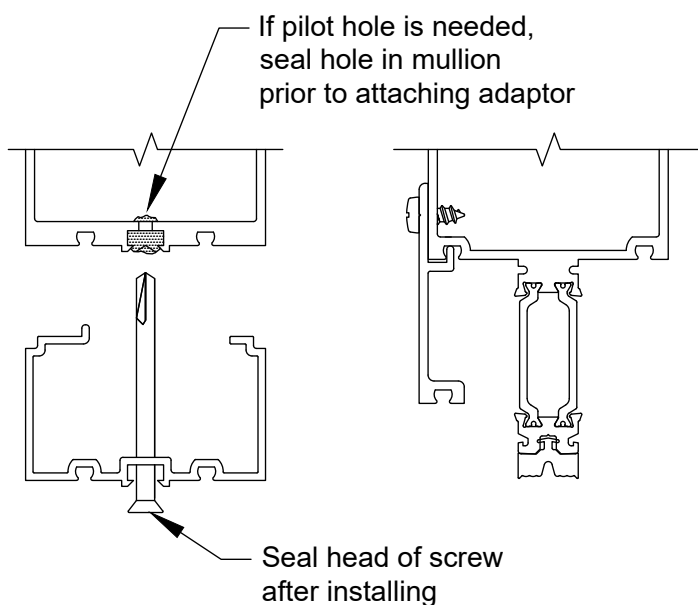

FIGURE 20
- A.2 For SSG mullions, install locator leg into one of the glazing reglets. Secure to mullion with FS-149 (#12 x 3" PFH SMS) for 1/4" spandrel glazing and FS-318 (#12 x 1-3/4" PFM SMS) for 1" spandrel infill. Attach @ 12" O.C. **SEE FIGURE 20**.